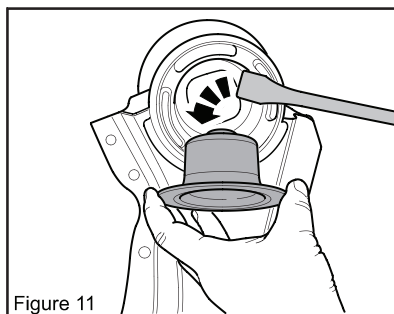

Figure 11
11. Remove the lower mount retaining washer using a suitable pry tool. (Figure 11).